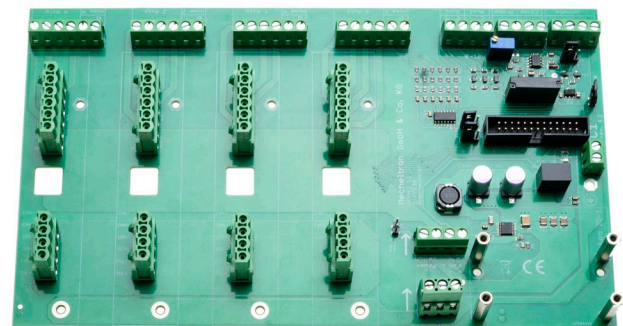

Fig. 8: Motherboard, the prepared space for the adapter module at the bottom right
- Mount the four spacer sleeves **12** for the adapter module with cylinder head screws **14**. See Fig. 8.